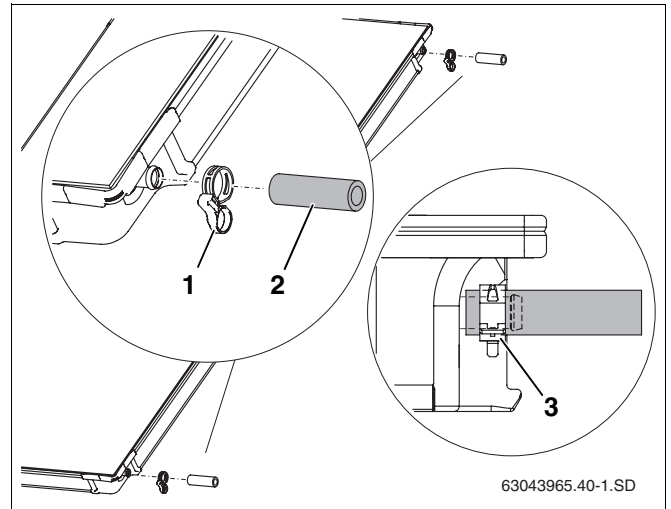

Fig. 20 Pre-assembling connection set on the second collector
- ▶ Push 95 mm solar hoses (Fig. 20, **Item 2**) onto the right-hand connections on the second and any subsequent collector.
- ▶ Push hose clips (Fig. 20, **Item 1**) over the solar hose (the second clip will enable the other collector to be connected later).
- ▶ Once the hose clip is sitting correctly, pull the quick release ring to secure the connection (Fig. 20, **Item 3**).